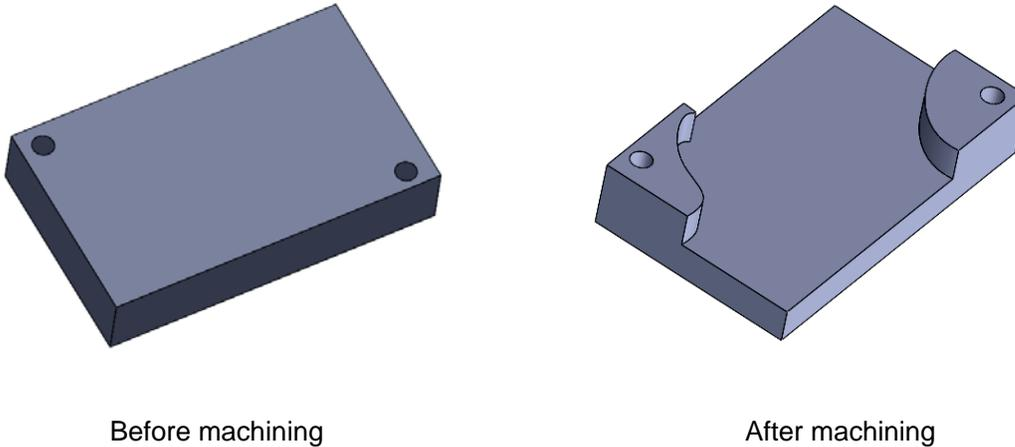

Figure 3 (Machining part)
Please refer to the Figure 3 to answer question 5 (a), (b) and (c).
- (a) Decide the best clamping method for the machining part in Figure 3. Analyze and sketch the clamping design method for the machining part to ensure there are no interference between cutting tools and the clamping design. (6 marks)